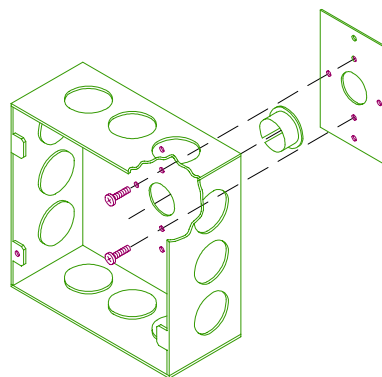

Figure 18: Junction Box and Mounting Bracket Assembly
- a. Install Junction Box. See Figure 18.
- ii. Install mounting bracket to rear of Junction Box with two (2) blunt sheet metal screws provided.